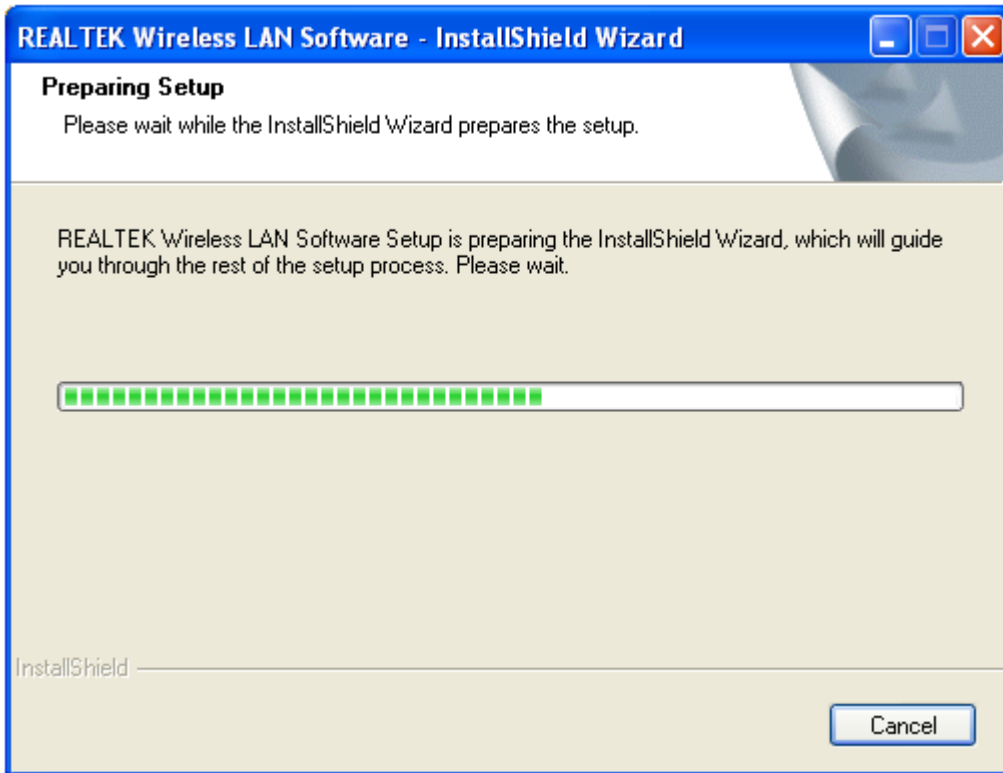

Figure 3
4. The Setup Program will detect automatically the install drivers and correct software by itself. The customer is according to "drive to install a guide to carry on to gradually install". (Figure 3, 4, 5 and 6)